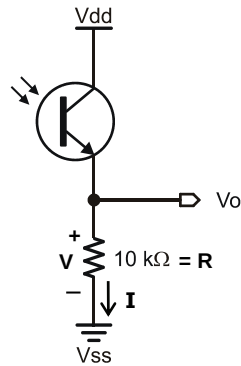

Figure 7-19
As mentioned in Chapter 5, Activity #2, the voltage threshold for a BASIC Stamp I/O pin is 1.4 V. When an I/O pin is set to input, voltages above 1.4 V applied to the I/O pin result in a binary 1 and voltages below 1.4 V result in a binary 0. The V_o node in the circuit shown in Figure 7-19 varies in voltage with light. This circuit can be connected to a BASIC Stamp I/O pin, and with low light, the voltage will pass below the BASIC Stamp's 1.4 V threshold, and the I/O pin's input register will store a 0. In bright light conditions, V_o rises above 1.4 V, and the I/O pin's input register will store a 1.
The reason the voltage at V_o changes with light levels is because of Ohm's Law, which states that the voltage across a resistor (V in Figure 7-19) is equal to the current passing through that resistor (I), multiplied by the resistor's resistance (R).
Remember that a phototransistor lets more current pass through when exposed to more light, and less current when exposed to less light. Let's take a closer look at the example circuit in Figure 7-19 and calculate how much current would have to pass through the resistor to create a 1.4 V drop across the resistor. First, we know the value of the resistor is 10 kΩ, or 10,000 Ω. We also know that we want the voltage to be equal to 1.4 V, so we need to modify Ohm's Law to solve for I . To do this, divide both sides of the $V = I \times R$ equation by R , which results in $I = V \div R$. Then, substitute the values you know ($V = 1.4$ V and $R = 10$ kΩ), and solve for I .